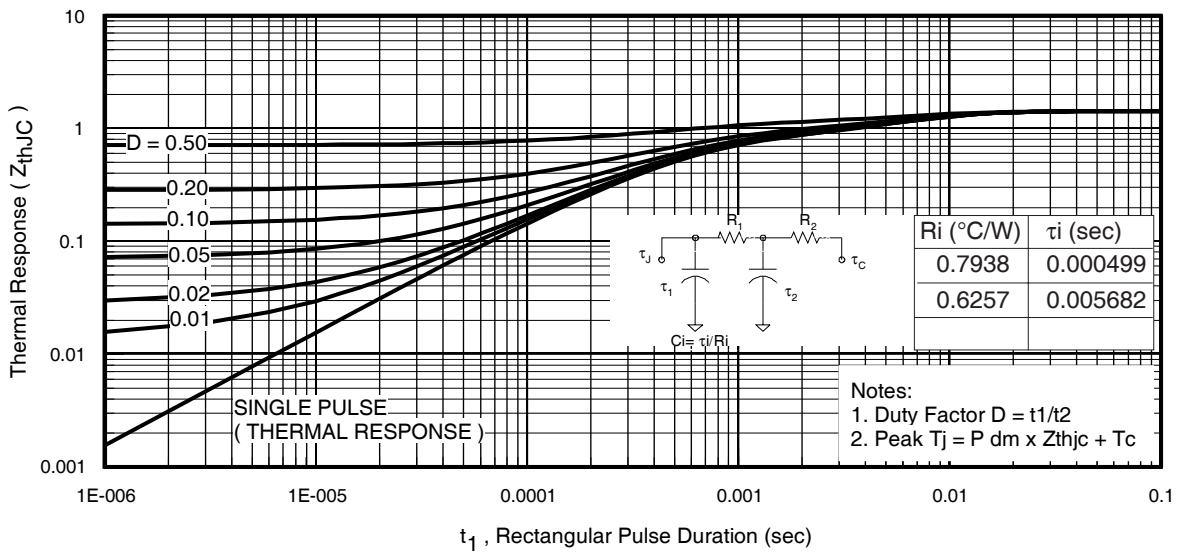
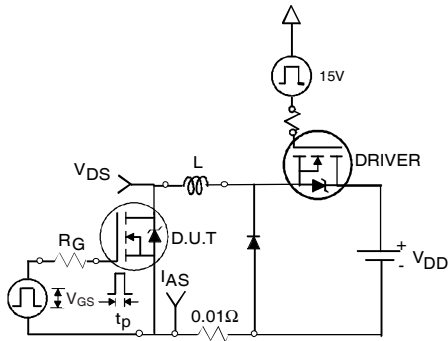

Fig 11. Maximum Effective Transient Thermal Impedance, Junction-to-Case
Fig 12a. Unclamped Inductive Test Circuit
- ① Repetitive rating; pulse width limited by max. junction temperature. (See fig. 11).
- ② Limited by T_{Jmax} ; starting $T_J = 25°C, L = 0.197mH, R_G = 25\Omega, I_{AS} = 32A, V_{GS} = 10V$. Part not recommended for use above this value.
- ③ Pulse width $\leq 1.0ms$; duty cycle $\leq 2\%$.
- ④ $C_{oss\ eff.}$ is a fixed capacitance that gives the same charging time as C_{oss} while V_{DS} is rising from 0 to 80% V_{DSS} .
- ⑤ Limited by T_{Jmax} , see Fig.12a, 12b, 15, 16 for typical repetitive avalanche performance.
- ⑥ This value determined from sample failure population, starting $T_J = 25°C, L = 0.197mH, R_G = 25\Omega, I_{AS} = 32A, V_{GS} = 10V$.
- ⑦ When mounted on 1" square PCB (FR-4 or G-10 Material). For recommended footprint and soldering techniques refer to application note #AN-994.
- ⑧ R_{θ} is measured at T_J approximately 90°C.
3. Equation below based on circuit and waveforms shown in Figures 12a, 12b.
$Z_{thJC}(D, t_{av})$ = Transient thermal resistance, see figure 11)